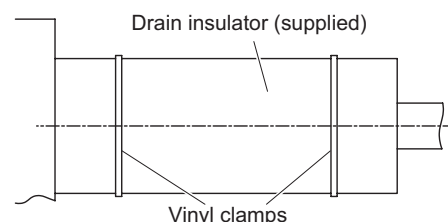

Fig. 2-184
- (2) After checking the drainage, wrap the supplied packing and drain pipe insulator around the pipe, then secure it with the supplied clamps. (Fig. 2-184)